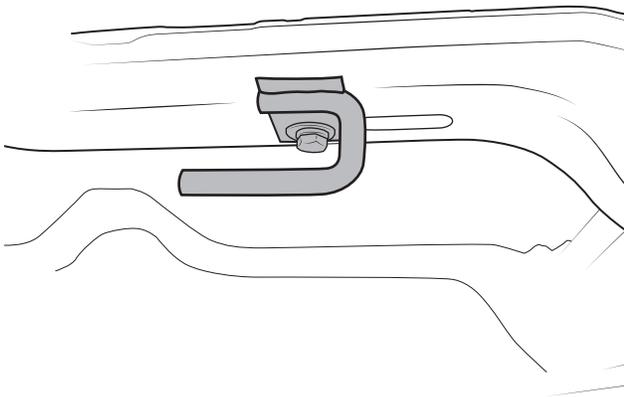

Figure 29
- a. Install the cross member hanger (fig 29).